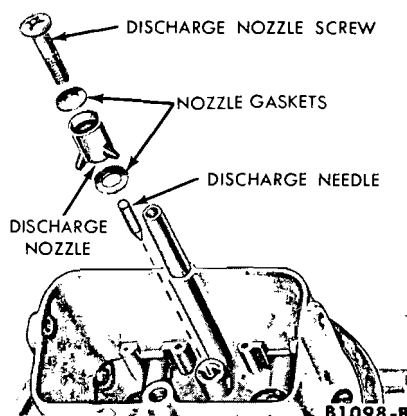

FIG. 19—Accelerating Pump Discharge Assembly—Holley 4-V
1. Drop the accelerator pump discharge needle into its well (Fig. 19). Lightly seat the needle with a brass drift and a hammer.